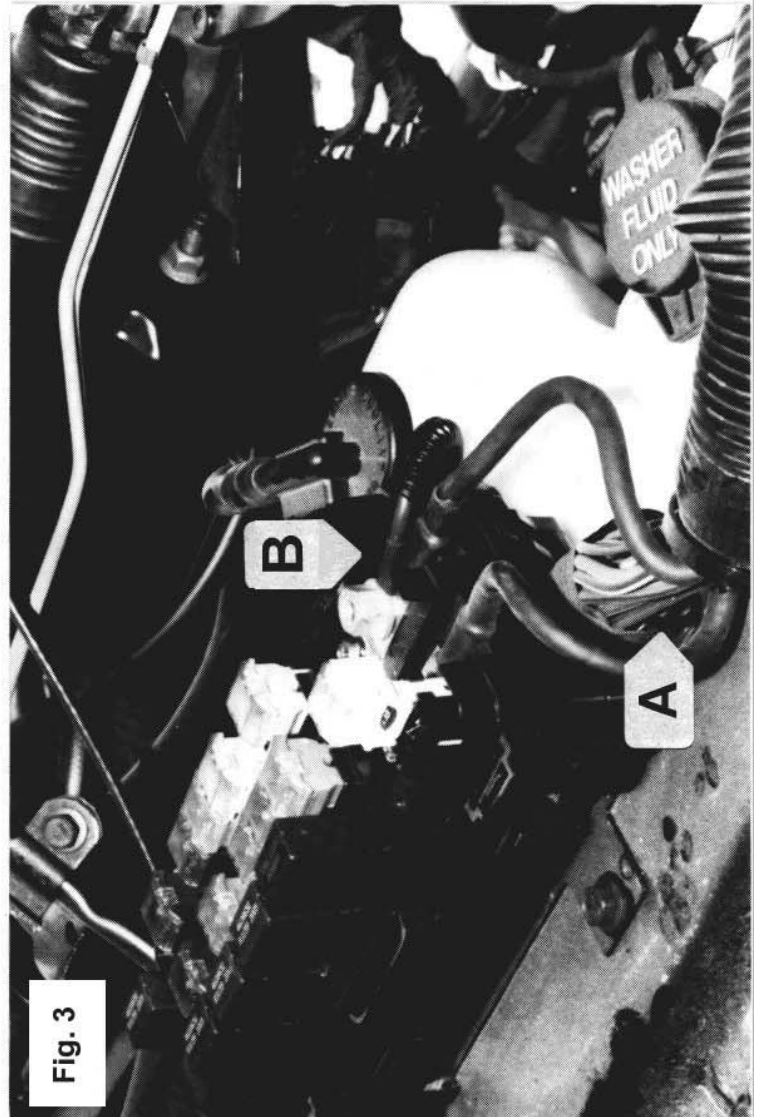
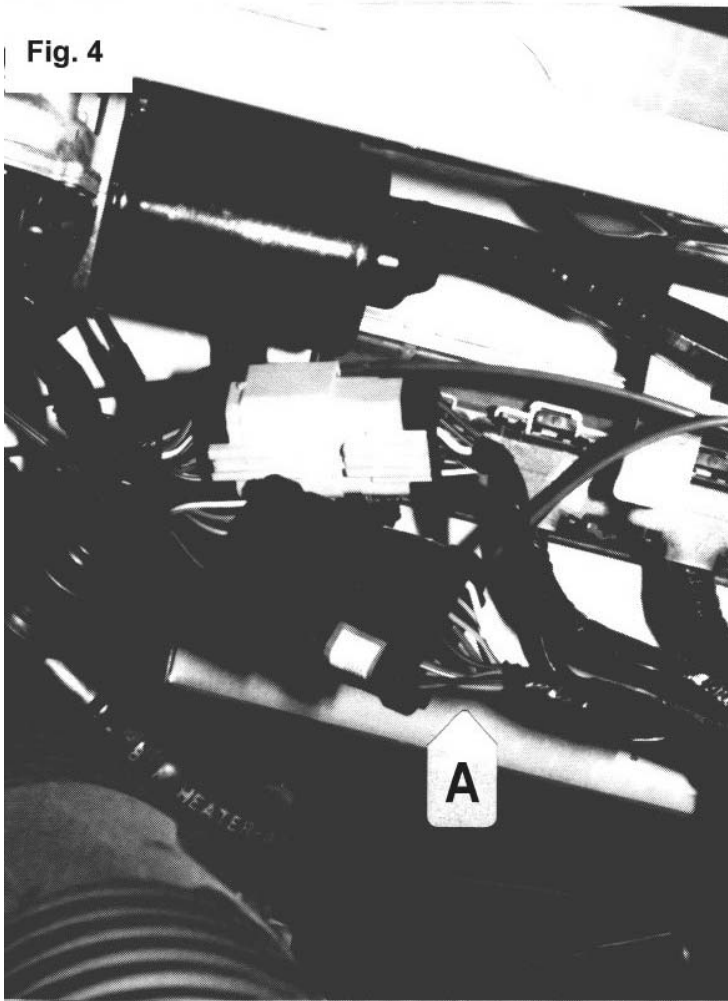

Fig. 3
Fig. 4
- 4) Connect the orange wire from idler to the brown w/orange stripe wire from the Neutral/Park switch. This wire should be grounded when the gear selector is in Neutral or Park. On the '95 chassis this wire can be found at the black connector by the windshield wiper motor (fig. 4-A). On the '96 chassis this wire can also be found at the fuse box that is under the hood (fig. 3-A).
- 11) Connect the C.B. to the +12v battery terminal on main fuse box as in fig. 3-B.